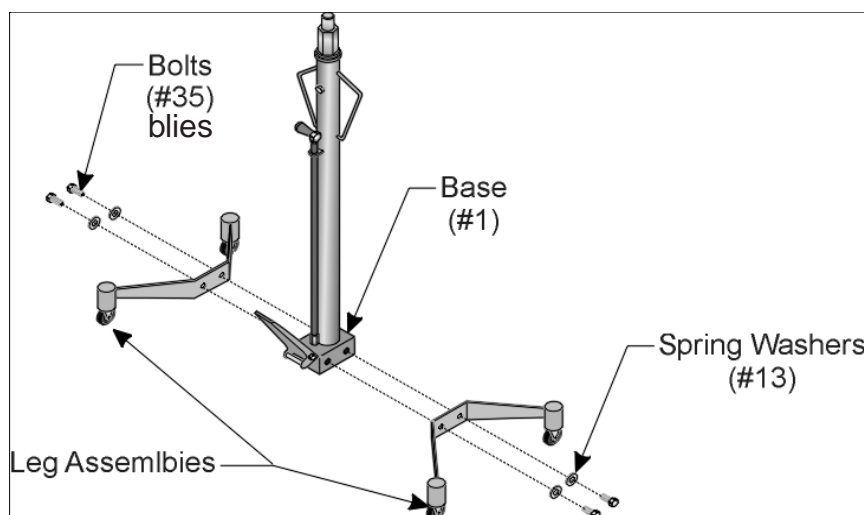

Figure 1 — Attaching Leg Assemblies
- Step 2: Attach the Leg Assemblies to the BASE using the BOLTS and SPRING WASHERS from Step 1 as shown in Figure 1. Tighten the BOLTS.